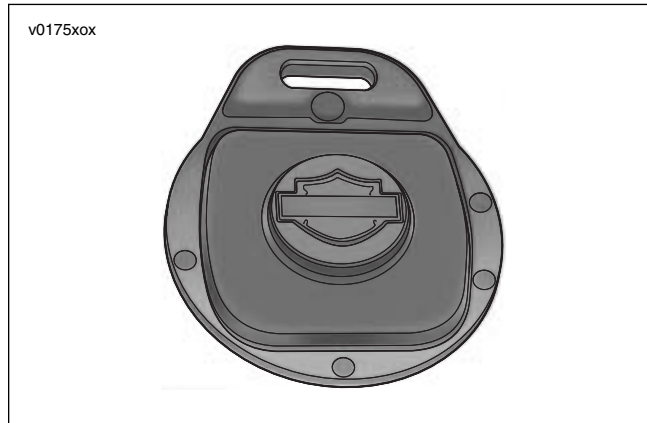

Figure 3-42. Key Fob Assembly
3. See Figure 3-42. Align case and circuit board as shown. Snap case halves together.